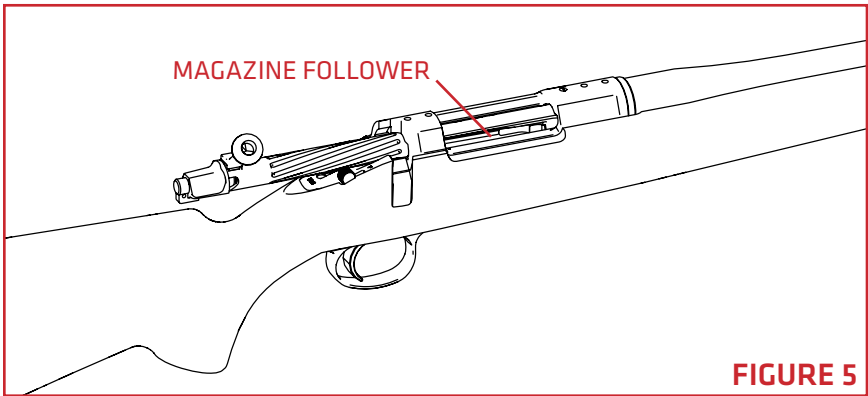

FIGURE 5
2. Open and pull the bolt to the rear. The magazine follower will now be visible through the open action (**FIGURE 5**).